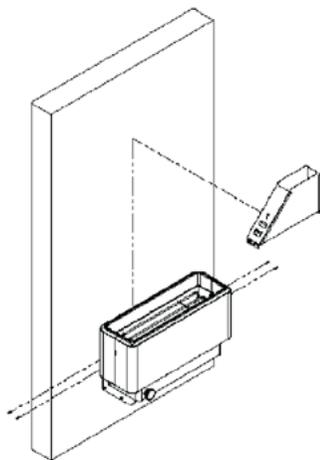

Figure 3.6: Installation of flue socket on the device and fastening with screws
3.2.5. Put the flue socket back and secure with four screws (figure 3.6).